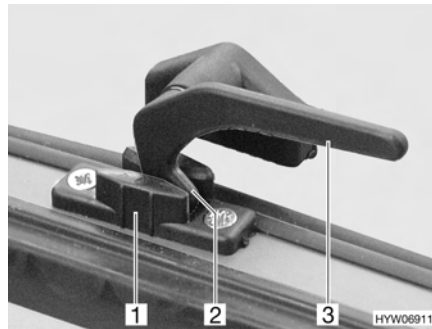

Fig. 20 Catch lever in the "continuous ventilation" position
- "Continuous ventilation" (Fig. 20)
- Turn the catch lever (Fig. 20,3) a quarter turn towards the centre of the window.
- Turn the catch lever a quarter turn towards the window frame. The locking catch (Fig. 20,2) has to be moved into the recess of window catch (Fig. 20,1).